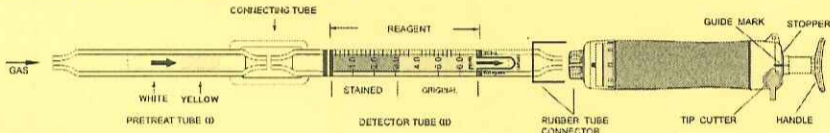

Fig.1
- ① Break both ends of the detector tube(II) and pretreat tube(I), and connect each end of the detector tube(II) and pretreat tube(I) with connecting tube connector as shown in Fig.1.
- ② Insert the detector tube(II) into the aspirating pump securely as shown in Fig.1 (Arrow mark shall point to the pump.)
- ③ Align the guide marks on the shaft and stopper of the aspirating pump.
- ④ Pull the pump handle at a full stroke until it locks and wait for 1.5 minutes or until the completion of sampling is confirmed with the flow indicator of the pump. (See descriptions about the flow indicator in the instruction manual of the pump.)
- ⑤ Turn the handle right or left by 1/4 (90°), push back the handle without removing the detector tube from the pump and then repeat the steps ③~④ once again.
- ⑥ On completion of sampling, read the scale at the maximum point of the stained layer.
- ⑦ When the concentrations are below the scale range, 4 pump strokes can be used to determine these lower concentrations.
- ⑧ When the concentrations are over the scale range, 1 pump stroke can be used to determine these higher concentrations.